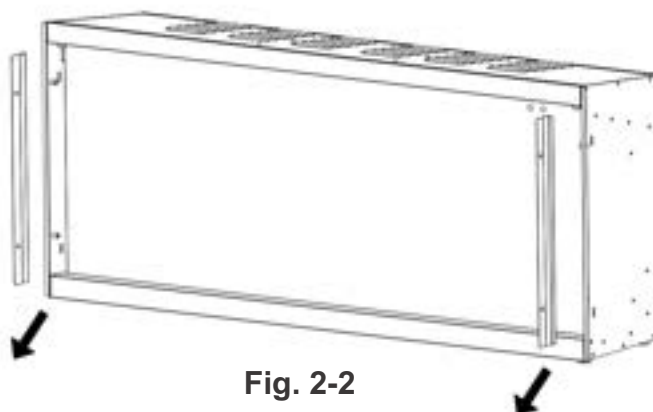
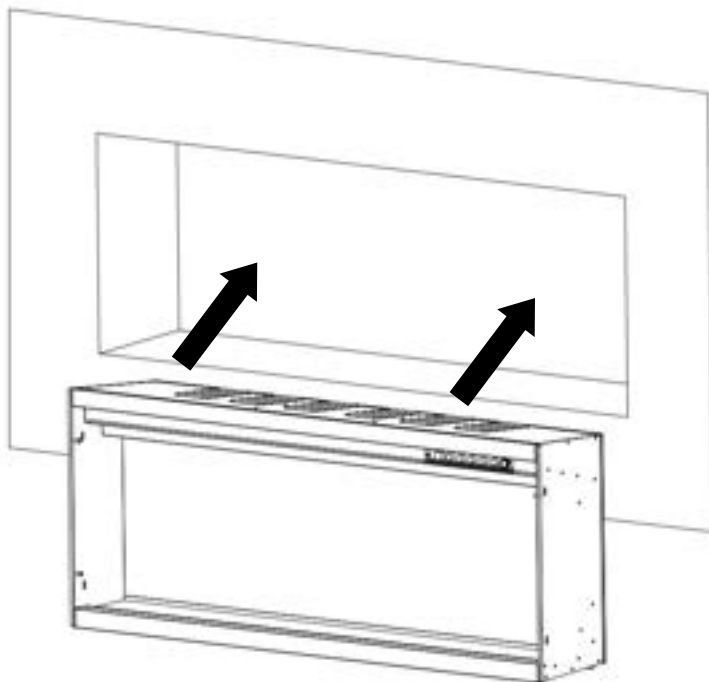

Fig. 2-2
Fig. 3-1
- Carefully take the metal bracket(s) away from the appliance. Place it face down on a soft, non-abrasive surface. (Fig. 2-2)
B. Insert the fireplace into the rough-in frame and then secure it by installing 4 wood screws (**B**) through the holes (Fig. 3-1, Fig 2-2).